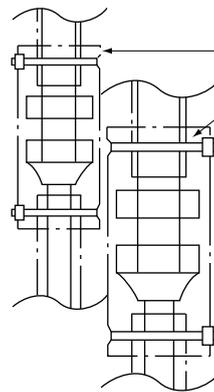

Fig. 13
- After leakage check of piping connection is finished, carry out thermal insulation. (**Refer to Fig. 13**)
- Carry out thermal insulation of both liquid and gas pipes with the attached insulation for fitting (5) and (6). (Tighten both ends of the insulation for fitting (5) and (6) with the clamp (8).)
- Braze the refrigerant piping only after having nitrogen flow through the pipe and substituting nitrogen for air (**Refer to Fig. 17**). Once this is completed, connect the indoor unit with flares (**Refer to Fig. 13**).